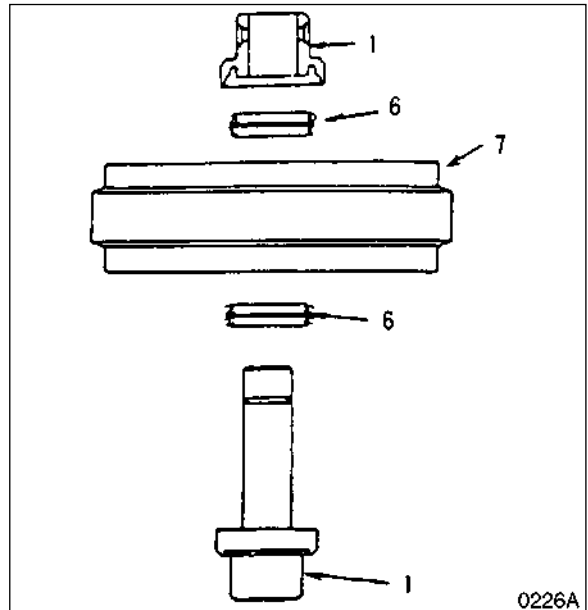

Figure 24
- Detach the group seal (6, Figure 24) from the idler (7) and bearing (1).